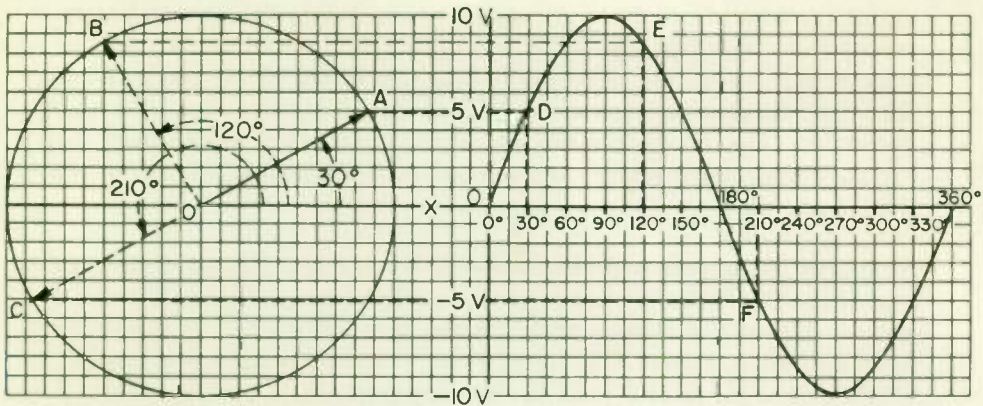

Fig. 28 How a revolving vector generates a sine wave.
Figure 28 shows the connection between a sine wave and a phasor. Like a circle, one complete cycle of a sine wave can be divided into 360° , as shown on the base line of the sine wave in the figure. The length of the phasor OA at the left is used as the peak value of the a-c voltage (or current) represented by the sine wave; it is 10 V in Fig. 28.
2. Refer to Fig. 28. The sine wave has its maximum positive value at (a) _____ degrees and its maximum negative value at (b) _____ degrees. The value of the sine wave is zero at (c) _____ degrees, (d) _____ degrees, and (e) _____ degrees.